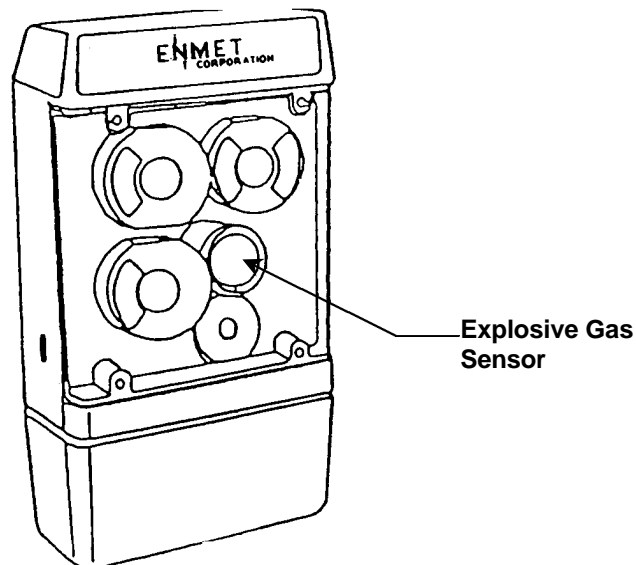

Figure 3-9: Location of the Explosive Gas Sensor
- Remove the old explosive gas sensor. See Figure 3-9